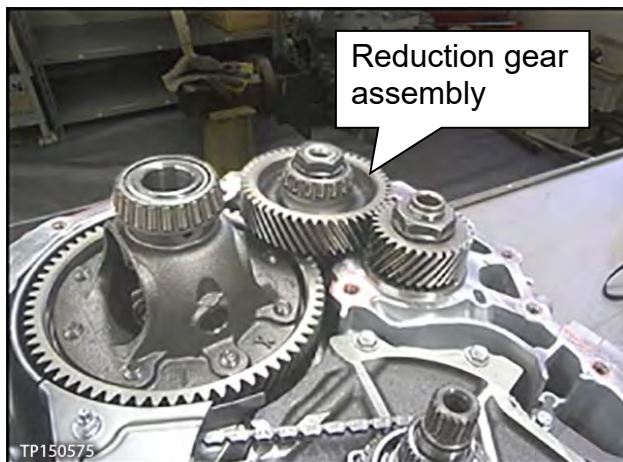

Figure 34
19. Carefully remove the reduction gear assembly (Figure 34).